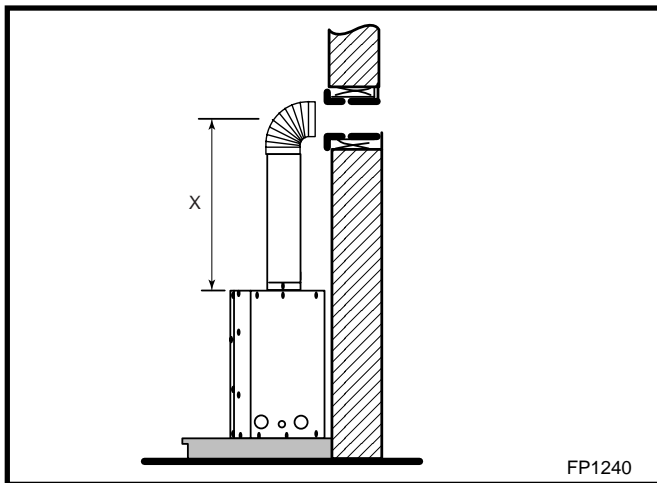

Fig. 19 Vertical height requirement.
Place fireplace into position. (Fig. 19) Measure the vertical height (X) required from the base of the flue collars to the center of the wall opening.